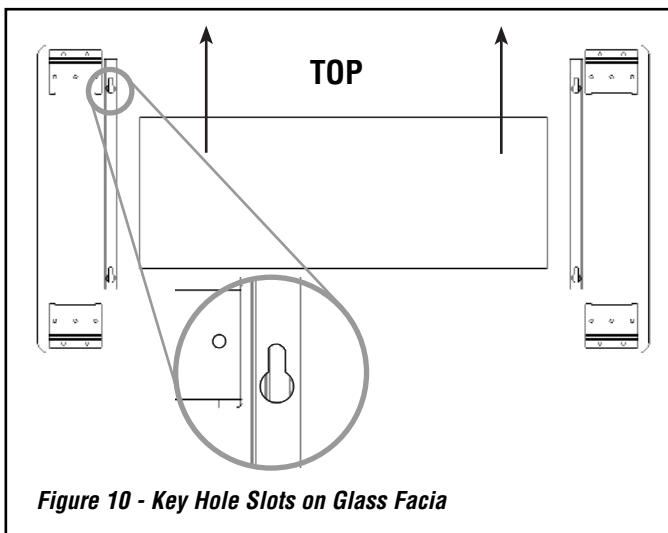

Figure 10 - Key Hole Slots on Glass Facia
1. Remove the glass panel from all packaging and lay face down on a soft surface. Identify the top and bottom of the glass facia by observing the orientation of the keyhole shaped slots in the facia fixing brackets as shown in **Figure 10**.